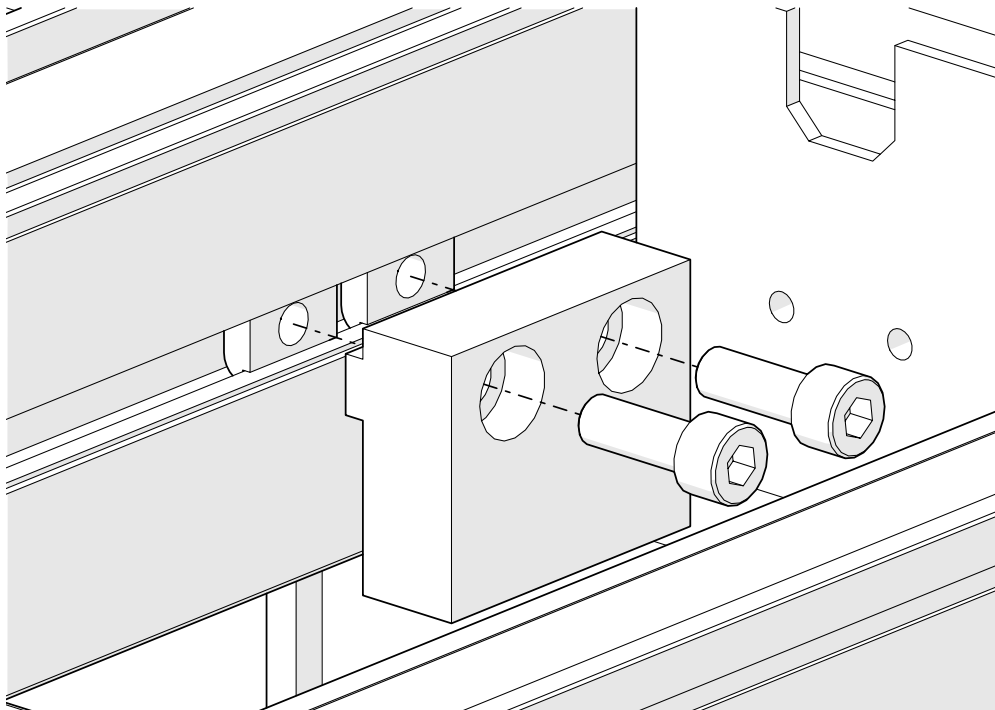

Figure 8: Securing P-00733 to Conveyor
**Step 3:** Insert P-00223 into T-Slot in extrusion and start to tighten the SHCS. Do not fully tighten yet (Figure 8).